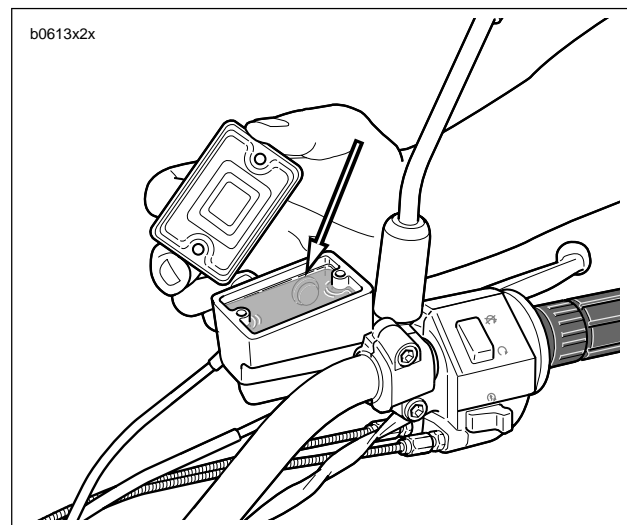

Figure 2-41. Brake Fluid Level
7. See Figure 2-41. With the master cylinder in a level position, add **D.O.T. 4 BRAKE FLUID**. Bring fluid level to within 1/8 in. (3.2 mm) of molded boss inside front master cylinder reservoir.